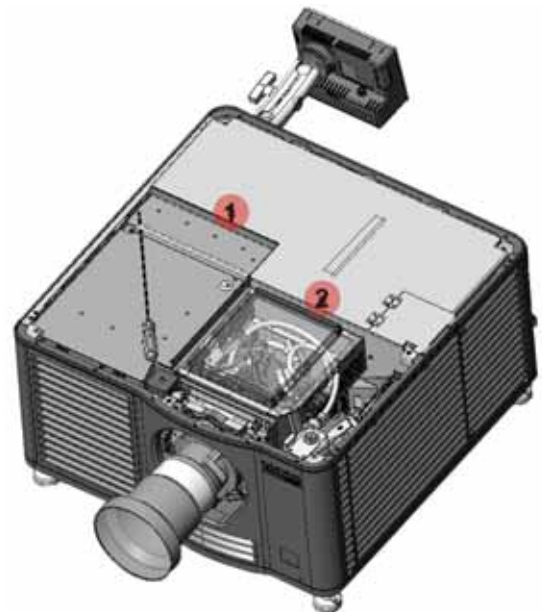

Figure 5-12 Safety Shield
3. Use a #1 Phillips™ to loosen the two captive screws (**Figure 5-12**).